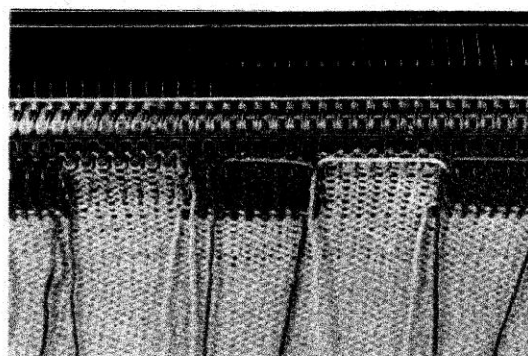

Fig.10
- (c) Push back from position (E) into position (D) the number of needles according to the degree of slope required. Lay the strands of yarn into the hooks of needles in position (D) and knit. (Figs. 10 & 11)